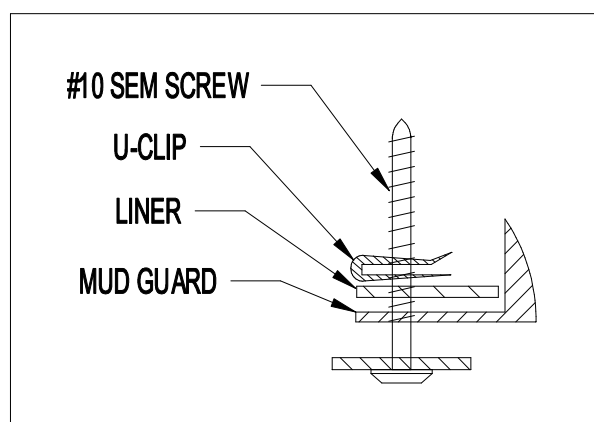

Figure 2
4. Mark, drill 1/8" holes, and install #10 SEM screws at locations A and D thru mud guard, fender and into a U-clip on the backside of fender and fender liner. **NOTE:** Do not install U-clips over fender lip (Figure 2).